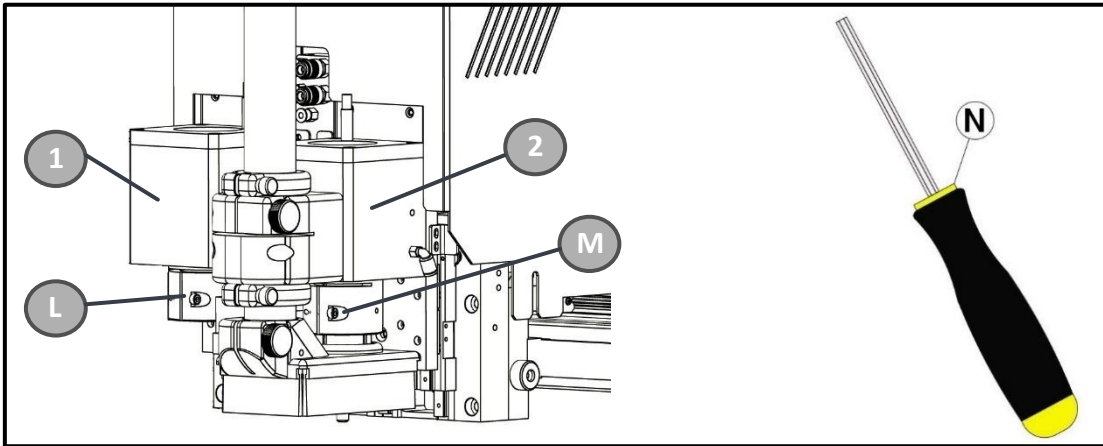

Figure 5-31
Once inserted, tighten the previously mentioned socket head screws (L and M) (Figure 5-31)
- Assemble the tool with the blade and lock the set screw that hold the tool. Figure 5-31.